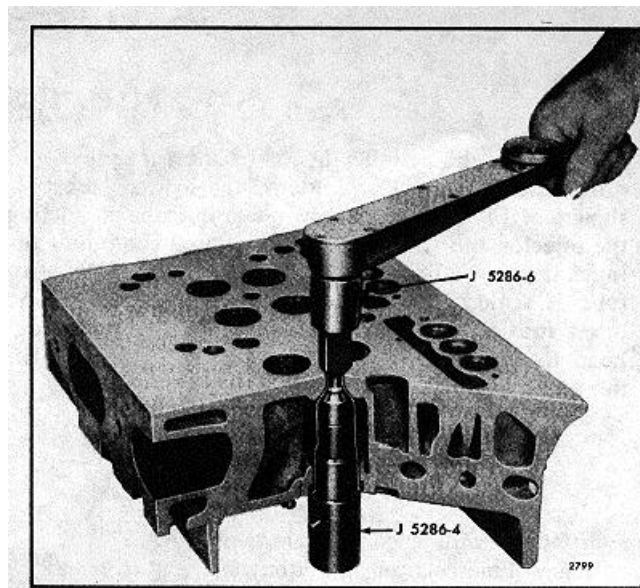

Fig. 3 - Upsetting Injector Tube
a. Turn the cylinder head bottom side up, remove the pilot J 5286-5 and thread the upsetting die J 5286-6 into the tapped end of the installer J 5286-4 (Fig. 3).